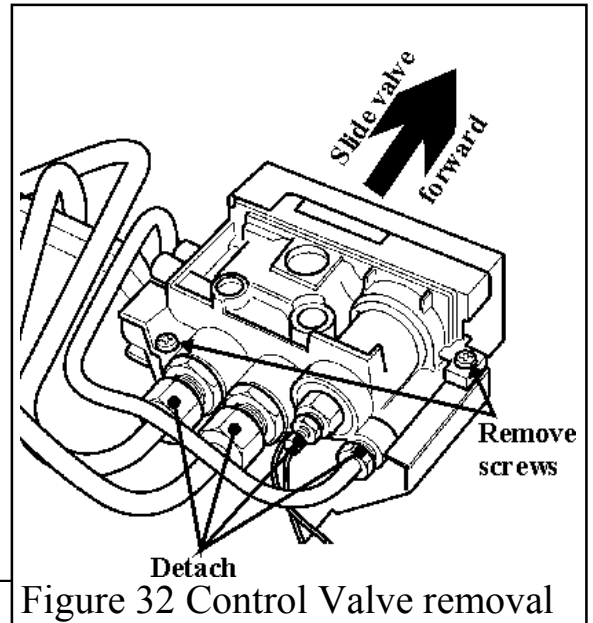

Figure 32 Control Valve removal
- Remove the two mounting screws on the underside of the gas valve. See figure 32.